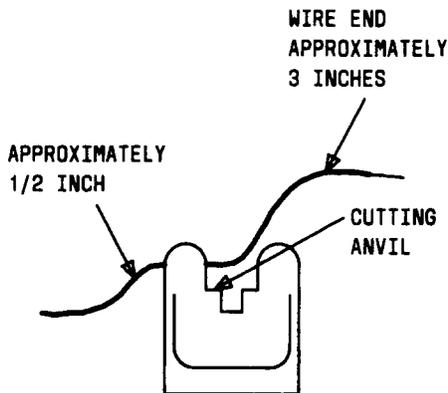

Fig. 4—94-Type Connecting Block With Dressed Conductor
**3.05** Dress individual conductors at right angles to the side of the 94-type connecting block. The conductor should have a minimum of no less than 1/2-inch slack before entering the block and approximately a 3-inch long stub after entering the block. (See Fig. 4.)